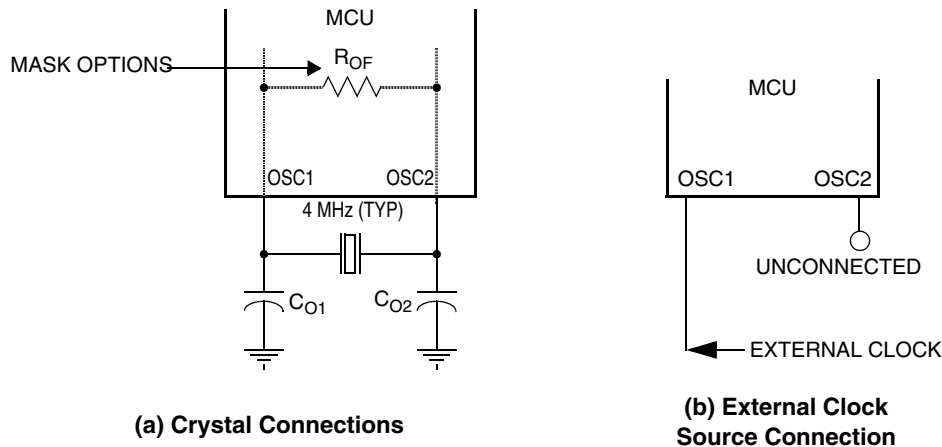

Figure 1-3. Oscillator Connections
- A crystal as shown in Figure 1-3(a)
- An external clock signal as shown in Figure 1-3(b)
The circuit in Figure 1-3(a) shows a typical 2-pin oscillator circuit for an AT-cut, parallel resonant crystal. The crystal manufacturer's recommendations should be followed, as the crystal parameters determine the external component values required to provide maximum stability and reliable startup. The load capacitance values used in the oscillator circuit design should include all stray capacitances. The crystal and components should be mounted as close as possible to the pins for startup stabilization and to minimize output distortion. An internal startup feedback resistor of R_{OF} between OSC1 and OSC2 may be selected as a mask option for MC68HC05L16. Typical R_{OF} resistor value is 5.5 M Ω .
An external clock from another CMOS-compatible device can be connected to the OSC1 input, with the OSC2 input not connected, as shown in Figure 1-3. This configuration is possible regardless of how the oscillator is set up.